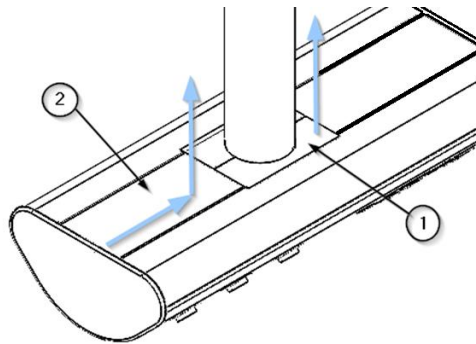

Fig. 41 Removal of main body covers
- Using a flat-nosed tool and taking care not to damage the paint on the top covers, remove the bottom covers of the downpipes ①, these are press-fitted. See figure 41.
- Now move the upper covers of the main body ②, which are also press-fitted, by hand, first in the direction of the main body and, once the side wall has been cleared, by pulling them upwards. See figure 41.